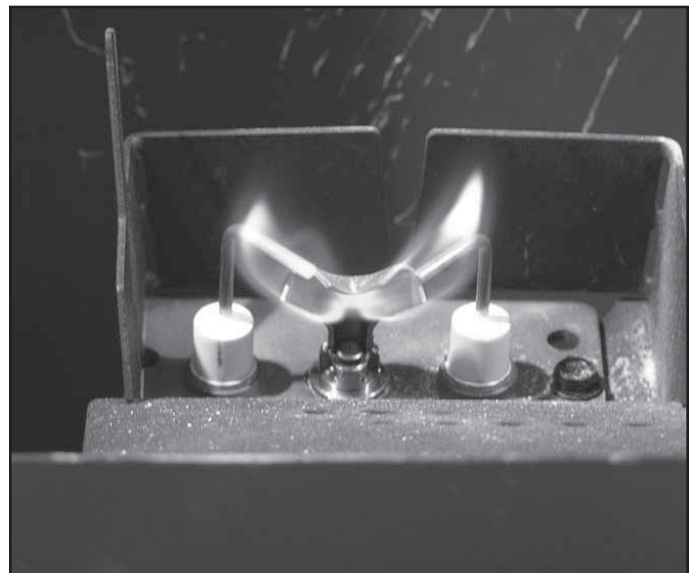

Figure 3.1 IPI Pilot Flame Patterns
- Inspect pilot flame pattern and strength. See Figure 3.1 for proper pilot flame pattern. Clean or replace orifice spud as necessary.